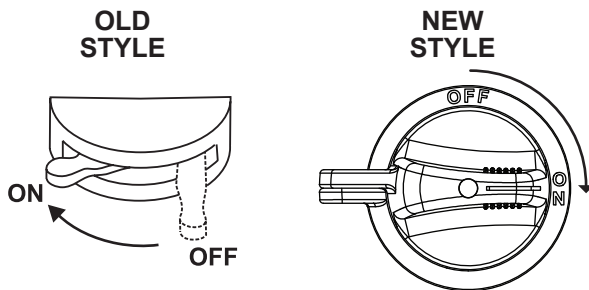

Figure 48. Battery Switch (ON)
1. Place the **battery switch** (Figure 48) in the **ON** position.